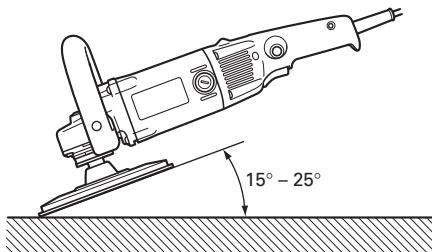

Fig. 3
- Rather than applying the entire disc surface to the metal surface to be ground, use the sander by inclining it approximately 15°~25° to grind with the disc peripheral portion. (Fig. 3).